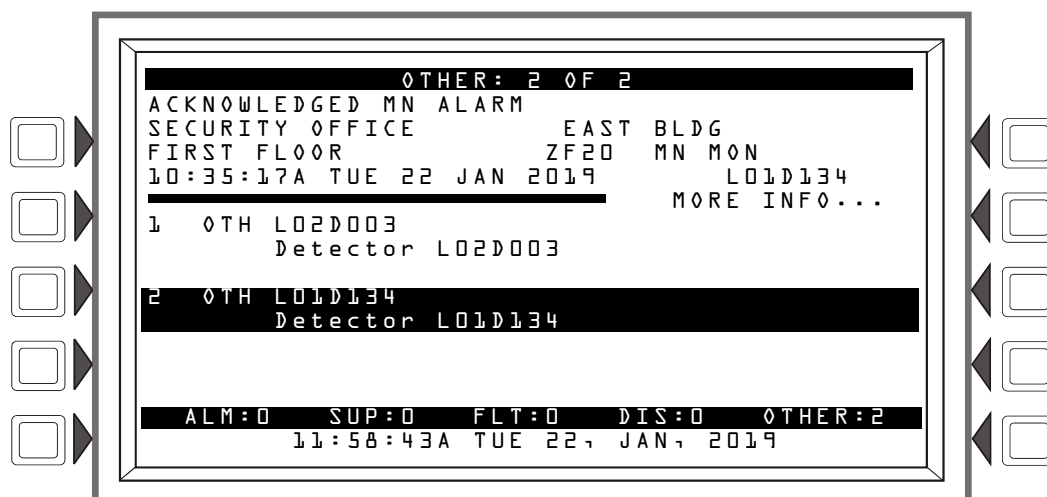

Figure 2.9 Mass Notification Alarm Message Display Example
- Displays MN ALARM in the upper left corner of the display, a Type Code that indicates the type of device that activated the alarm, and other information specific to the device. The message occupies the top four lines of the screen, replacing the System Normal message as shown in Figure 2.9 below. Refer to “Mass Notification Events” on page 11 for a full description of each message field